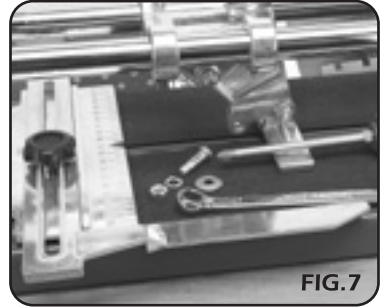

FIG.7
- **REPLACING TUNGSTEN CARBIDE TIPPED WHEEL (Fig.7.):**